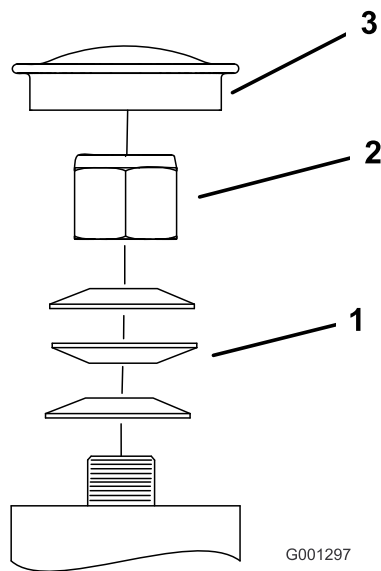

Figure 59
3. Remove the dust cap from caster and tighten lock nut (Figure 59).
4. Tighten the locknut until the spring washers are flat and then back off a 1/4 turn to properly set the pre-load on the bearings (Figure 59).
Important: Make sure spring washers are installed correctly as shown in Figure 59.
5. Install the dust cap (Figure 59).